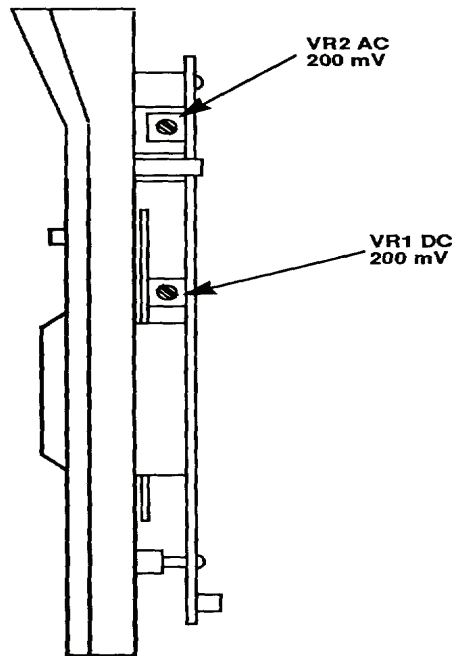

Figure 1. Adjustment locations.
(1) Connect calibrator **OUTPUT** terminals to TI **V-Ω** and **COM** terminals and set TI **FUNCTION/RANGE** dial to **DCV 2**.
(2) Set TI **FUNCTION/RANGE** dial and calibrator output as specified in table 3. If TI does not indicate within the specified limits, perform **b** below.
b. Adjustments. Set TI **FUNCTION/RANGE** dial to **DCV 200m** and calibrator for a 190 mV dc output. Adjust VR1 DC 200 mV (fig. 1) for a TI indication of 190.0 mV (R).
(1) Ensure calibrator **OUTPUT** terminals are connected to TI **V-Ω** and **COM** terminals and set TI **FUNCTION/RANGE** dial to **ACV 2**.
(2) Set TI **FUNCTION/RANGE** dial and calibrator for voltages and frequencies listed in table 4. TI will indicate within the specified limits; if not, perform **b** below.
b. Adjustments. Set TI **FUNCTION/RANGE** dial to **ACV 200m** and calibrator for a 190 mV, 400 Hz output. Adjust VR2 AC 200 mV (fig. 1) for a TI indication of 190.0 mV (R).